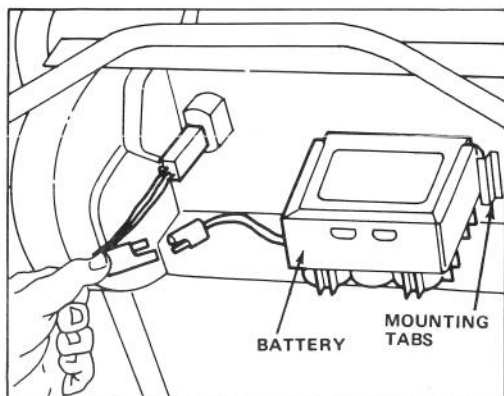

Figure 5
8. Charge battery (Key Start model): refer to Charging Battery, page 11. Slide battery, decal side up, between slots on back of control panel and connect wires (Fig. 5). Insert key into switch when ready to start engine.